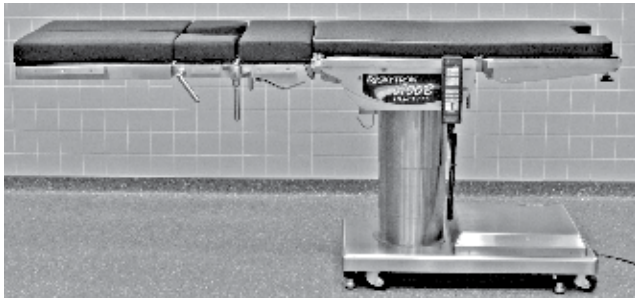

Figure 10. Table Pads
9. Install the table pad with the perineal cutout toward the head end of the table and install the leg section pads (Figure 10).